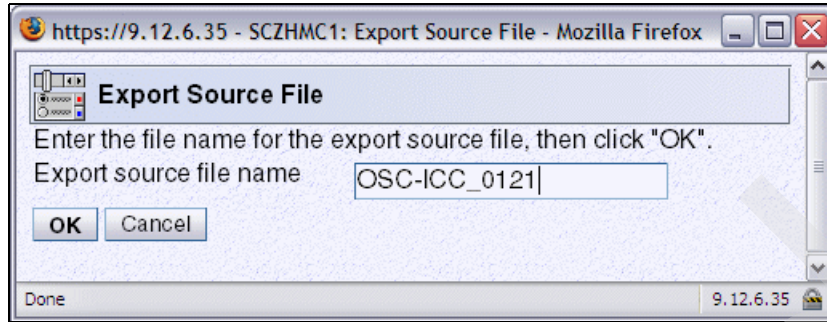

Figure 4-31 HMC - OSA Advanced Facilities (Export file name)
8. The HMC prompts you to enter a file name to be written onto the diskette (in the example shown in Figure 4-31 on page 161, we used OSC-ICC_0121). Type in the file name, then click **OK**.